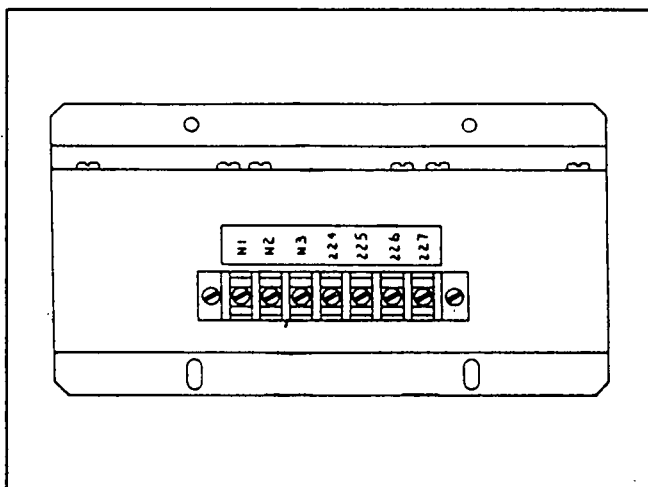

Figure 9. Utility Sensing Interface Test Points
- Use an AC voltmeter to check line-to-line voltage across terminals N1, N2 and N3 of the utility sensing interface. See Figure 9.